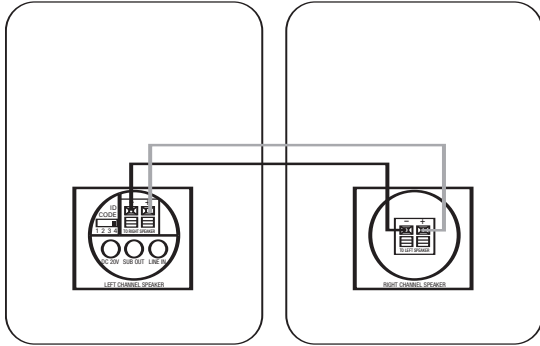

Figure 3.
Connect the speaker wire (included) to the push terminals on the active speaker ⑥ and the push terminals on the rear of the passive speaker ⑩. See Figure 3. Please note that the speaker wire supplied features a polarity stripe to help distinguish its two conductors. Use this polarity stripe to ensure that you are connecting the positive (+) terminal on one speaker to the positive (+) terminal on the other, and the negative (-) to the negative (-). It does not matter whether you use the striped conductor for connecting the positive (+) terminals or the negative (-) terminals.
Connect the speaker wire (included) to the push terminals on the active speaker ⑥ and the push terminals on the rear of the passive speaker ⑩, as shown in Figure 3. Please note that the speaker wire supplied features a polarity stripe to help distinguish its two conductors. Use this polarity stripe to ensure that you are connecting the positive (+) terminal on one speaker to the positive (+) terminal on the other, and the negative (-) to the negative (-). It does not matter whether you use the striped conductor for connecting the positive (+) terminals or the negative (-) terminals.
Connect the speaker wire (included) to the push terminals on the active speaker 6 and the push terminals on the rear of the passive speaker 10, as shown in Figure 3. Please note that the speaker wire supplied features a polarity stripe to help distinguish its two conductors. Use this polarity stripe to ensure that you are connecting the positive (+) terminal on one speaker to the positive (+) terminal on the other, and the negative (-) to the negative (-). It does not matter whether you use the striped conductor for connecting the positive (+) terminals or the negative (-) terminals.